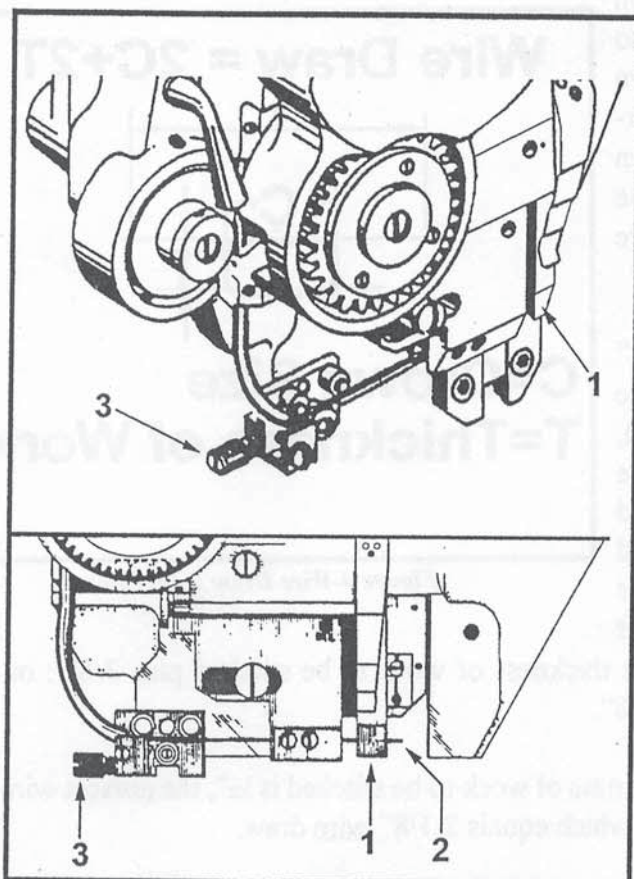

Figure 2-Straightening Wire on Head
E. Push the wire down through the upper wire tube, past the wire feed gears and into and through the lower wire tube (3) until the wire appears at the bottom opening of the lower wire tube.
F. Thread the wire between the upper wire straightener rolls (4) and lower adjustable roll (5); then enter and fish end of wire into the stationary cutter (6) in cutter block. *Note: The standard draw head is not supplied with the wire straightener device.* When threading this head, the wire is drawn through the lower wire tube and inserted directly into the stationary cutter.
G. Re-engage wire feed gears by lowering the gear throw-out handle (1) into its locked position. Turn the machine over by hand and observe that the wire is feeding freely and is being fed into the gripper (7) in a straight line.
2. How to Straighten Wire on Head (See Fig. 2).
A. After wire has been threaded into head, turn over machine by hand until the wire has been cut and is being held by the gripper (1). Observe that the wire length being held by the gripper does not curl upward or downward; the cut piece should be as close to a straight line as possible as shown at (2) in insert of Figure 2. If wire tends to curl up